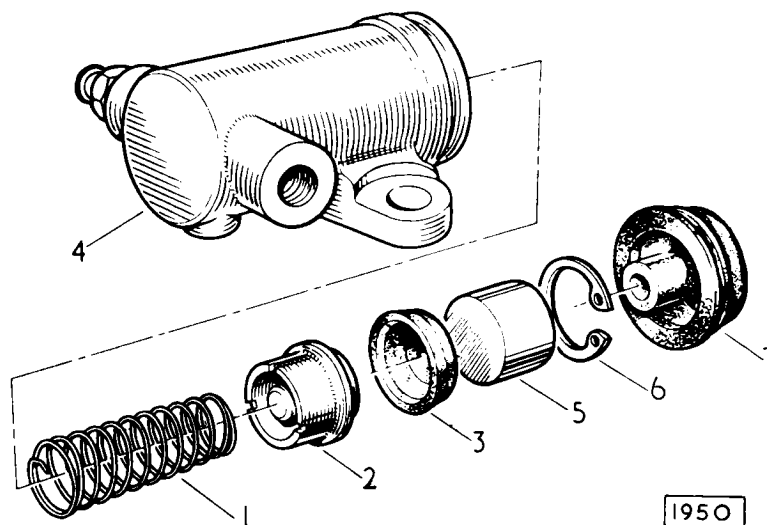

Fig. 8. Exploded view of the clutch slave cylinder.
The clutch slave cylinder consists of a body (4 Fig. 8) which incorporates two threaded connections and is bored to accommodate a piston (5) against the inner face of which a rubber cup (3) is loaded by a cup filler (2) and a spring (1); the travel of the piston is limited by a circlip (6) fitted in a groove at the end of the bore. A rubber boot (7) through which a push-rod passes, is fitted on to the body to prevent the intrusion of dirt or moisture.